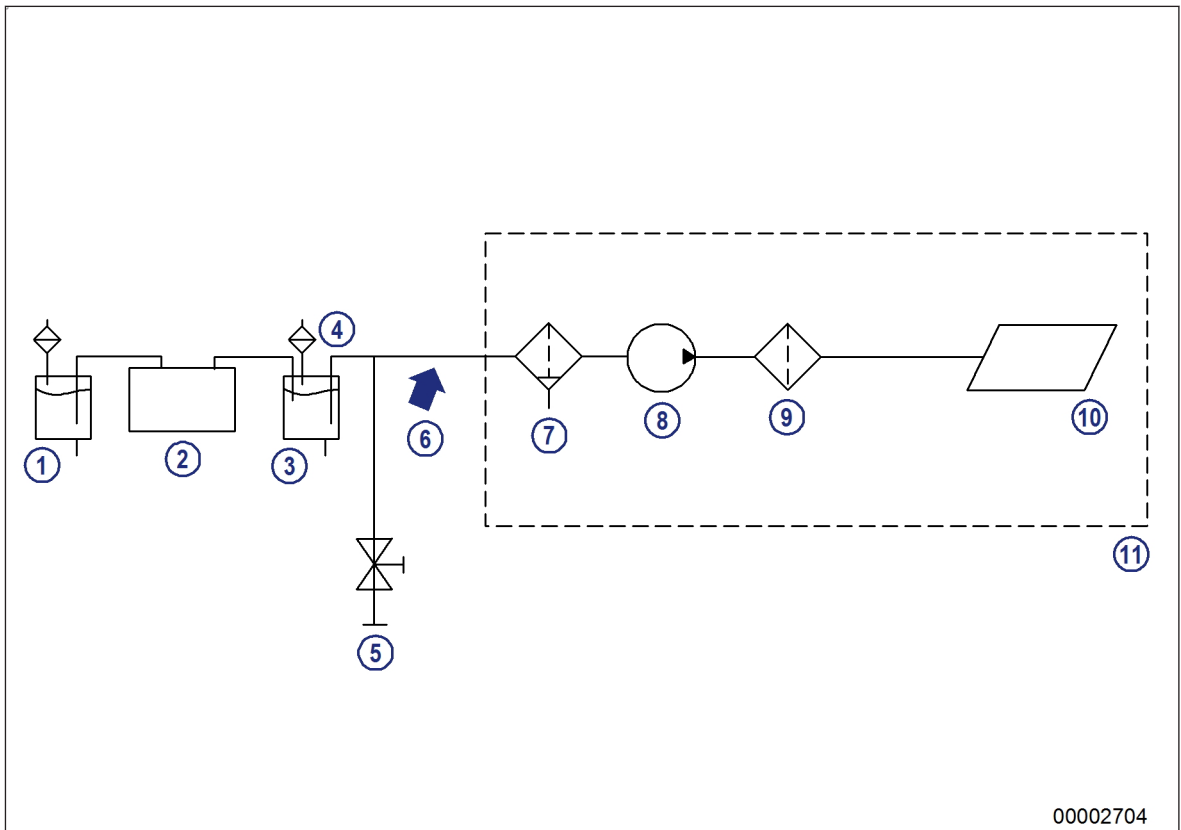

Figure 4: Fuel system diagram
For safe and efficient engine operation, the specified limit values, in particular for water, total contamination, must be observed for all permissible fuel grades at the interface marked in Fig. 4 item 6, at the latest.